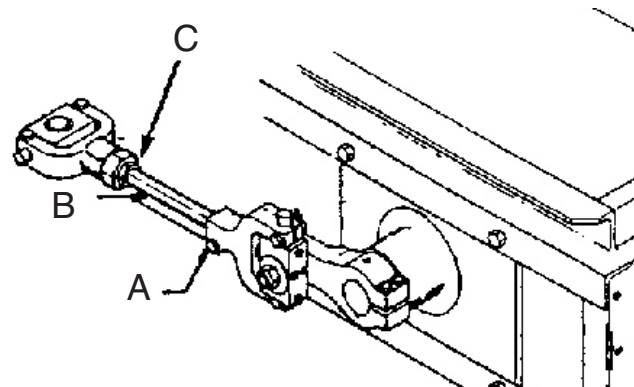

Figure 121. Feed Arm
Loosen bolt (A), and rotate rod (B) to give desired position of the feed fork (see Figure 121). There should be no end play in rod at (C).
The feed arm connecting rod swivel is adjusted by loosening jam nut (C). Rotate the swivel nut clockwise until tight. Then loosen the swivel nut in a counterclockwise rotation 1/12" of a turn. To secure, hold the swivel nut in position and retighten the 2" jam nut (see Figure 121).